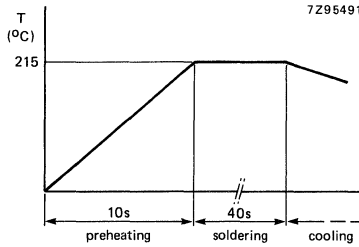

Fig. 4 Vapour phase soldering.
1. Cardboard tape, on reel; quantity 4000 per reel; reel diameter 180 mm (see Figs 4, 6).
2. Cardboard tape, on reel; quantity 10 000 per reel; reel diameter 250 mm (see Figs 4, 6).